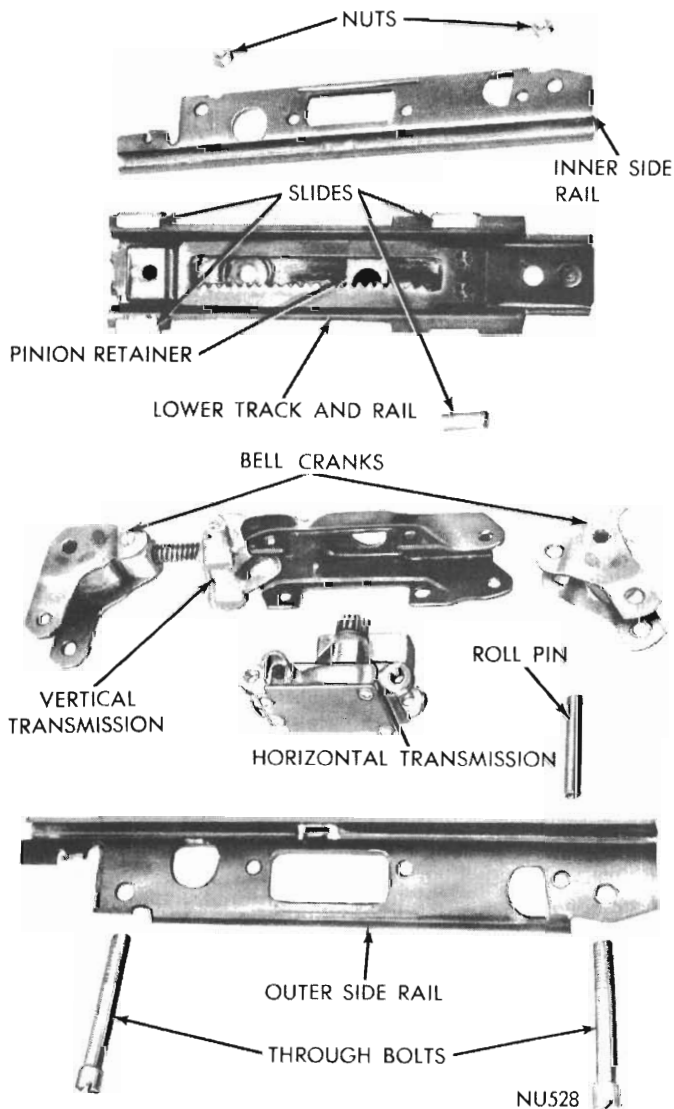

Fig. 56 - Side rail (disassembled)
- (1) Remove seat assembly from vehicle following procedure outlined under "Seat Assembly and Adjuster".
- (2) Remove motor assembly following procedure outlined under "Motor".
- (3) Fasten a 10" "C" clamp from the mounting base assembly to the upper channel assembly just tight enough to keep it in place while removing cotter key and the front (5/16") clevis pin.
- (4) After clevis pin is removed, slowly release the tension on the vertical spring.
- (5) Remove cotter key and rear (3/8") clevis pin and upper channel assembly.
- (6) Remove horizontal spring.
- (7) Remove the through-bolts from each end of the side rail assembly.
- (8) Remove the through-bolts from the transmission assemblies and separate rails and transmission assemblies (Fig. 56).